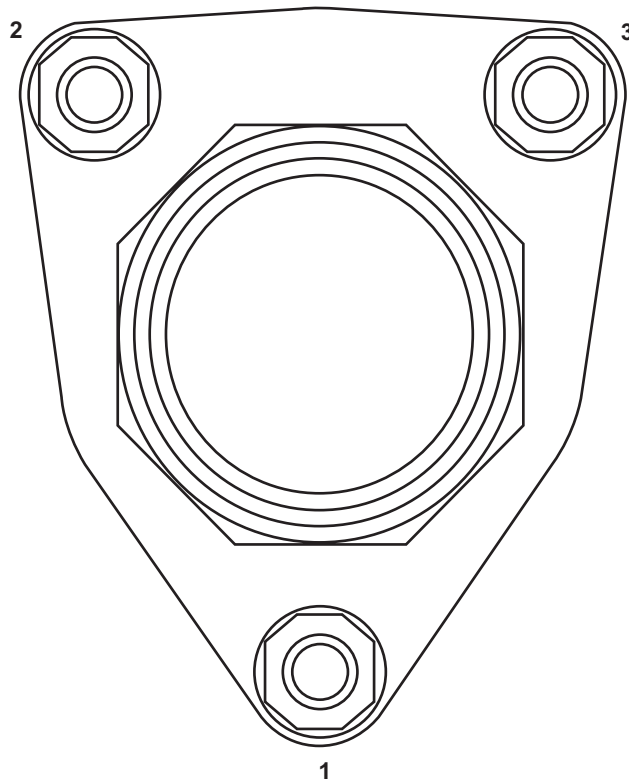

Figure 2. Torque Pattern for Sil Braze Ball Valve
23. With a wrench, tighten each nut (figure 1, item 2) until the lockwashers (figure 1, item 3) begin to compress. Tighten in the sequence shown in figure 2.
24. Continue to tighten each nut (figure 1, item 2) 1/8th of a turn at a time in the sequence shown in figure 2. Tighten to a torque value of: